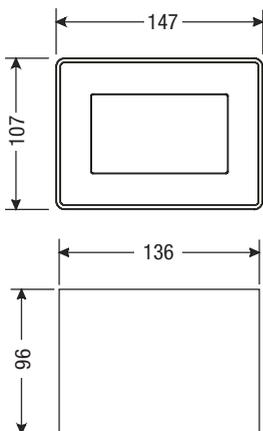
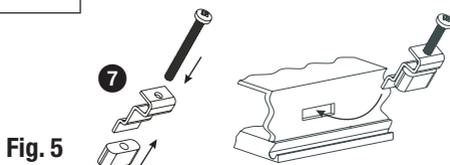

Fig. 3
Fig. 5
- Provide a control panel cut-out with the dimensions indicated in **Fig. 3 and 4**.
- Insert the operating & display unit into the control panel cut-out. Make sure the gasket ⑥ is properly seated.
- Insert and fasten the screws **Fig. 5** until the edges of the frame are flush with the panel of the control cabinet.
To connect the equipment use screened multi-core control cable with a min. conductor size 0.5 mm2, e.g. LiYCY 4 x 0.5 mm2. Wire terminal strip in accordance with the wiring diagram. **Fig. 3.** Connect the screen only once to the central earthing point (CEP) in the control cabinet.
The conductivity electrode LRG 16-9 is equipped with a sensor plug-in connection type M 12, with 5 poles, A-coded, pin assignment see **Fig. 3.** For connecting the equipment control cable assemblies (with male and female connectors) of various lengths are available as add-on equipment.
To connect the conductivity controller LRR 1-50 remove the connector and wire the terminal strip according to the wiring diagram. **Fig. 3.** Connect the screen only once to the central earthing point (CEP) in the control cabinet.